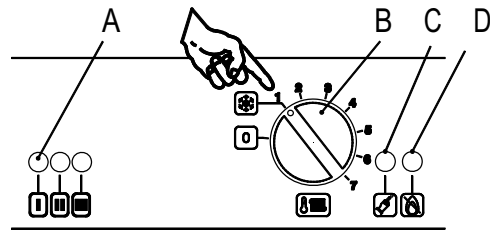

Figure 5.2
- 2 Turn on the electricity supply to the boiler, switching on the circuit breaker. The appliance operation light A (Figure 5.2) will flash every 4 seconds (stand-by condition).
- 3 If the boiler is to be used for c.h. position the function selector B as in Figure 5.2. The appliance operation light A will flash every 2 seconds (operating boiler).
- The appliance operation light A (figure 5.2) will flash every 4 seconds (stand-by mode).